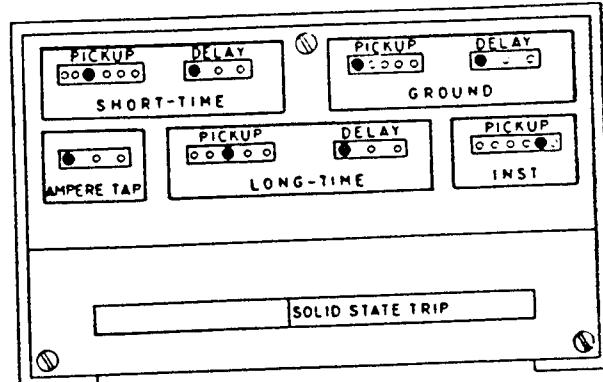

Fig. 19 — Solid State Overcurrent Trip Device Type SS-5G Shown
1. Turn adjusting screw (1) out as far as possible so that the circuit breaker will not trip when the magnetic latch trips.
2. Remove the terminal block cover on the solid state assembly by removing two lower screws (Fig. 19). Disconnect two wires at terminals 15 and 16.
4. While lightly holding down at point "A" so that the lever (2) does not move through its full stroke and trip the circuit breaker, momentarily apply the voltage (3V) from two dry cell batteries, size "D", to the two wires (+ to wire 16, - to wire 15) that were disconnected in operation 2. The magnetic latch should trip.
5. Gradually release the hold on lever (2).
6. While holding the lever (2) in the tripped position, turn in on screw (1) until the circuit breaker just trips, then turn in one additional turn.
OVERCURRENT TRIP DEVICE SETTINGS (See Fig. 19)**